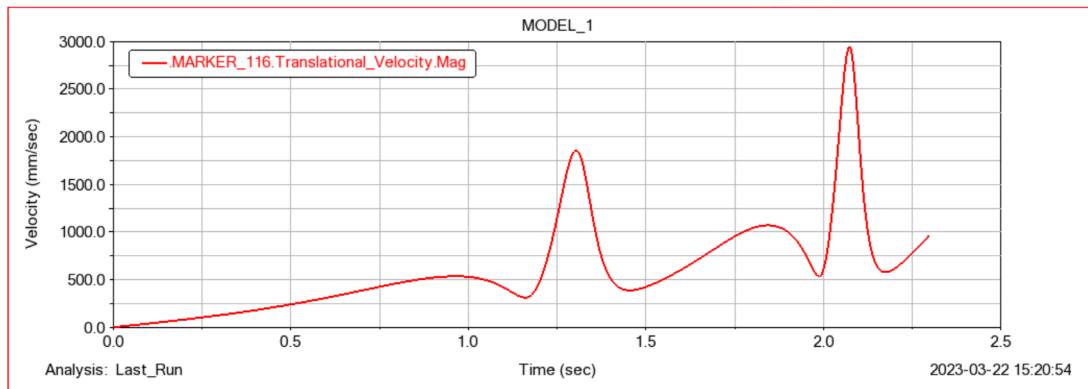

Fig. 5: Velocity vs time
1. Velocity plot is shown in fig 5